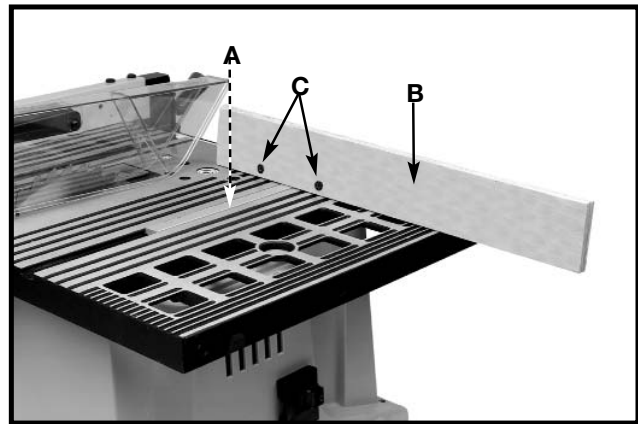

Fig. 39A
For added safety and convenience the miter gauge (A) can be fitted with an auxiliary wood-facing (B), as shown in Fig. 39A, that should be at least 1 inch higher than the